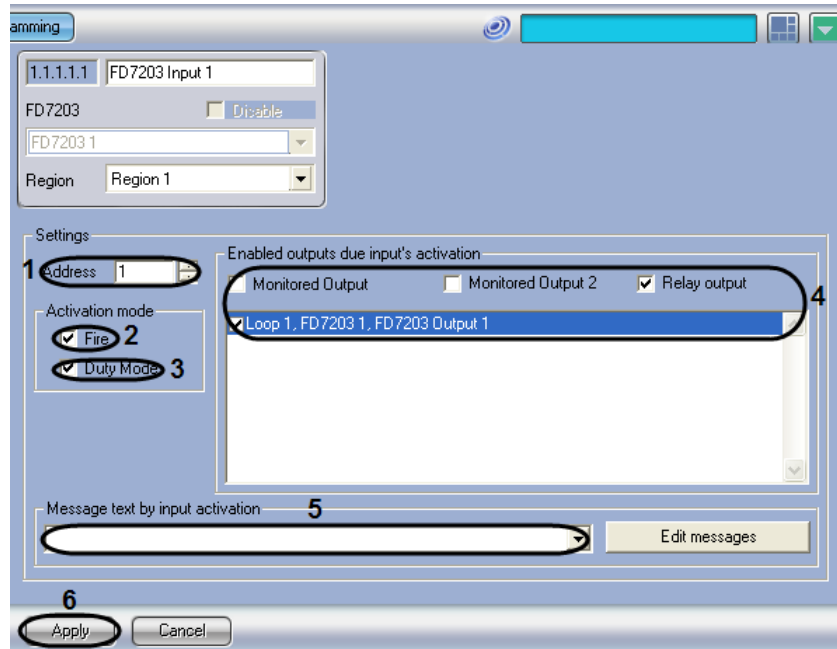

Fig. 3.6—3 Configuring inputs of the FD7203 addressable module
1. Go to the settings panel of the “FD7203 input” object (Fig. 3.6—3).
2. Enter the CAN network address of the FD7203 module input (from 1 to 3) into the “Address” field (see Fig. 3.6—3, 1)
3. If to activate an input you are required to employ outputs in the “Fire Condition” mode then check the “Fire” checkbox in the “Activation Mode” area (see Fig. 3.6—3, 2).
4. If to activate an input you are required to employ outputs in the “Duty” mode then check the “Duty mode” checkbox in the “Activation Mode” area (see Fig. 3.6—3, 3).